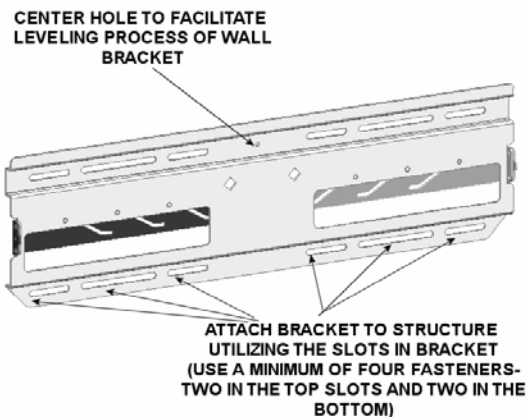
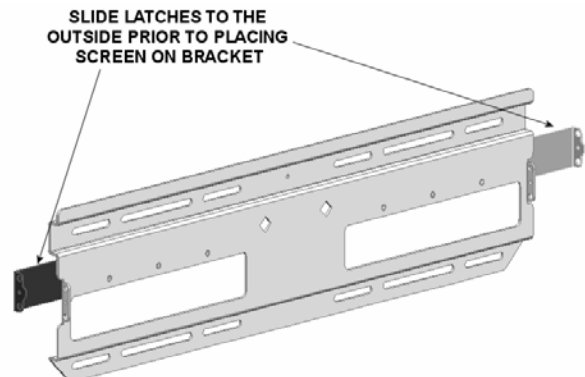

Figure 9. Wall Plate Installation
Figure 10. Slide Latches Outward
2. Using a small nail or screw (not provided) in the center hole, lightly hold wall plate at the mounting location (see Figure 9).
3. Level the wall plate (10) and drill pilot holes for anchoring the wall plate. If drilling into wood studs, use a 15/64" drill bit.
4. Using four 5/16" lag bolts (240) and 5/16" washers (250), install the wall plate on the wall.
5. Slide the latches to the outside (see Figure 10).